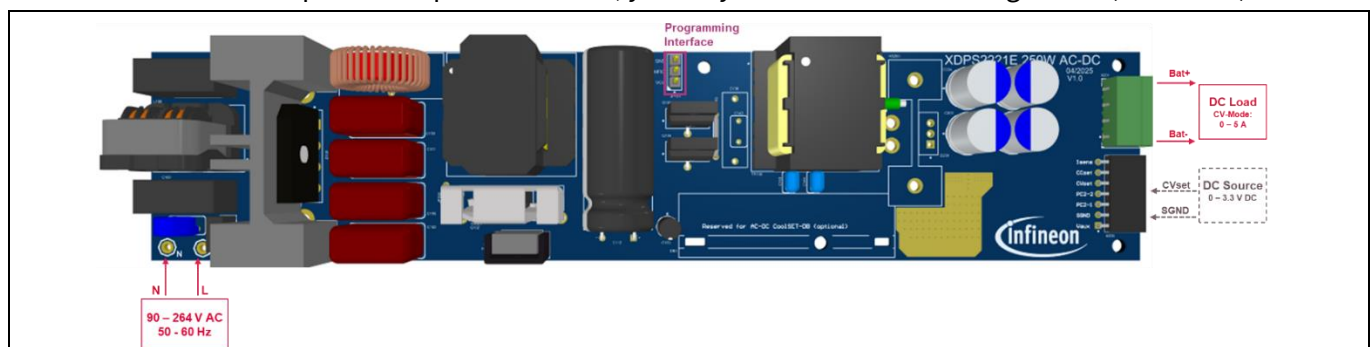
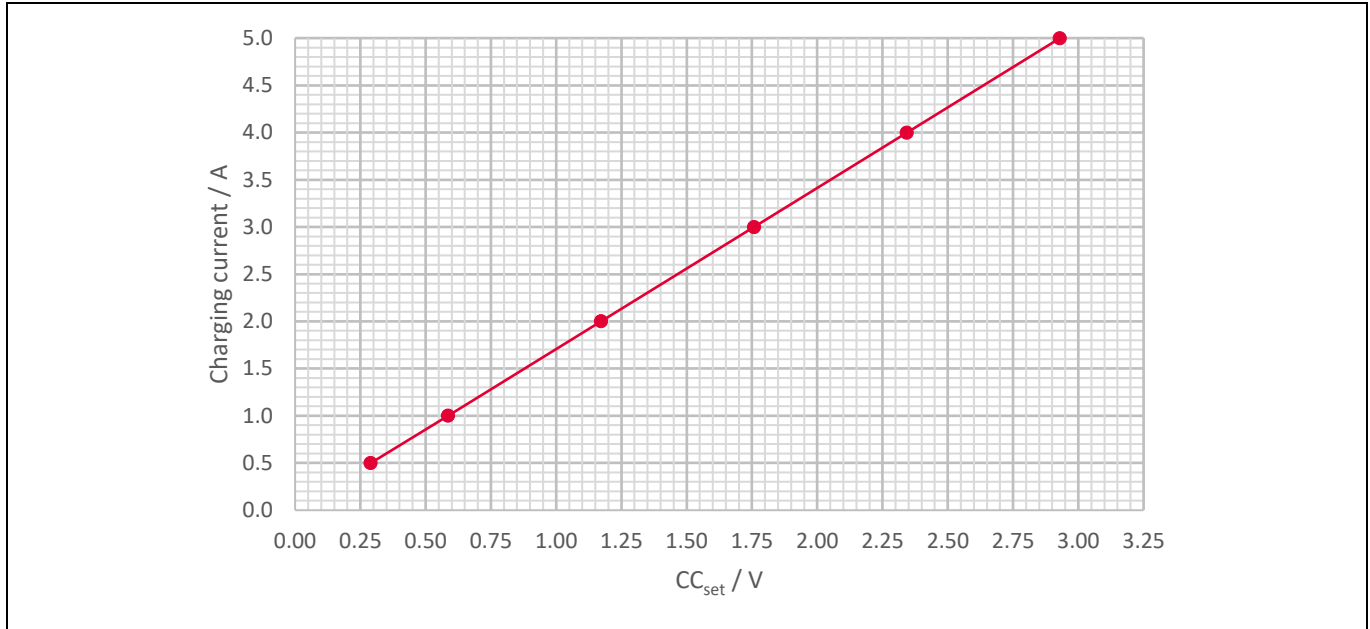

Figure 5 SMPS-mode test setup with electronic load
Figure 6 CC_{set} values for desired charging current
In order to set the desired charging current and the voltage the CC_{set} and CV_{set} value is controlled via an external DC source, according to Figure 5 and Figure 6. An electronic load in CV mode is used to evaluate the board performance. The board needs either to start up with applied load to operate in CC-mode or can be driven out of the CV-mode into CC-mode during operation, see a) of below's test procedure description.
5. Set the CC_{set} signal to the desired charging current in range of I_{out} 0.5 A – 5 A, see Figure 5
In order to set the desired charging current and the voltage the CC_{set} and CV_{set} value is controlled via an external DC source, according to Figure 5 and Figure 6. An electronic load in CC mode is used to evaluate the board performance.
5. Set the CV_{set} signal to the desired output voltage in range of V_{out} 18 V – 55 V, see Figure 6
Set the CC_{set} value via control interface connector Xout2, Pin 6 according to the desired charging current, as described in Figure 6. By default, the CC_{set} is not set internally and needs to be set from external DC supply.